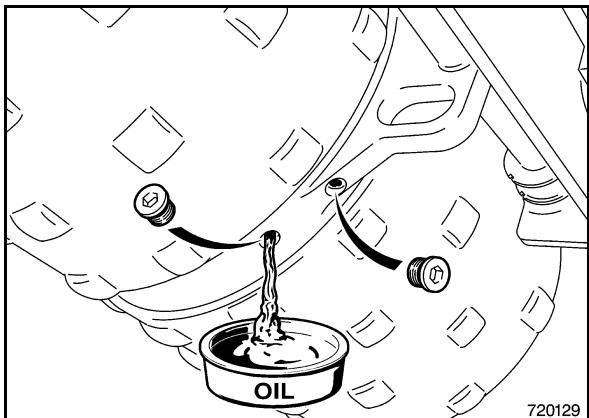

Fig. 105
- Unscrew the drain and filling plug on the front drum (Fig. 105).
- Unscrew the drain and ventilation plugs (Fig. 105) from the upper drum.